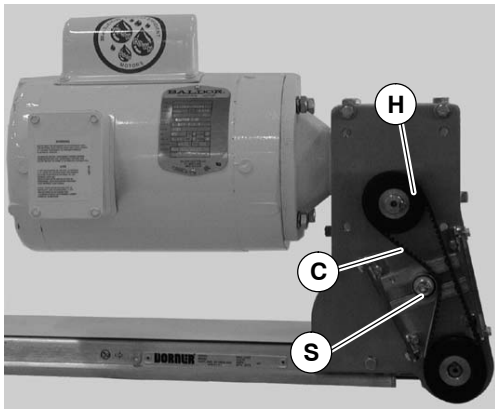

Figure 22
- Loosen tensioner (S of Figure 22).
**NOTE:** If drive pulley (H of Figure 22) is replaced, wrap timing belt around drive pulley and complete step 3.